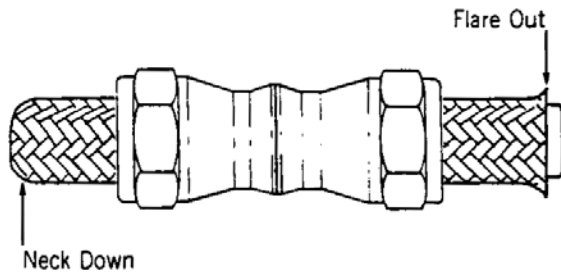

Figure 13: Placing sockets on hose
Step 2. Install sockets (size -4 through size -10). Place two sockets skirt-to-skirt in vise (see **Figure 13**), and work hose through sockets with a twisting pushing motion. Installing sockets over “neckdown” end of hose will facilitate assembly.